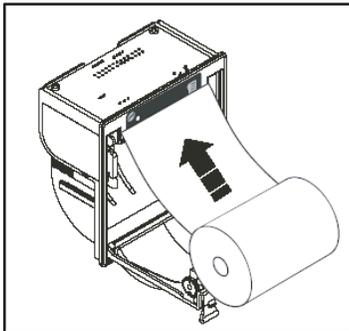

Fig. 30: Installing new paper roll
3. Pull the paper out of the housing as shown in Fig. 30 and close the lid.